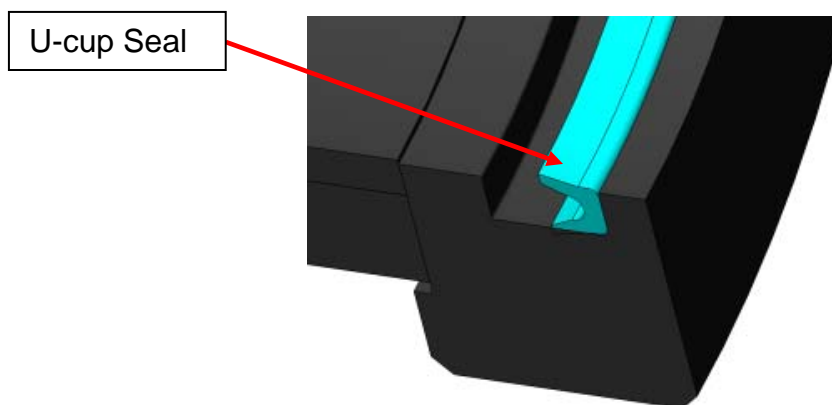

Figure 21c Cylinder Removal
9. Clean the groove thoroughly and install the new seal. Make sure the open face of the seal is toward the closed end of the cylinder as shown in **Figure 21c**.